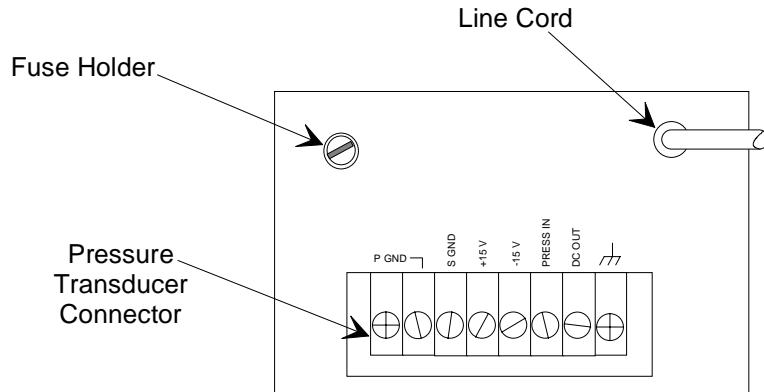

Figure 4: Rear Panel Controls
8. Use an external meter to measure the DC output voltage for this channel. Reference the meter to S Gnd on the input connector. Refer to Figure 4, page 28. This voltage should track the input voltage of step 7 to within  $\pm 0.2$  Volts. If it does not, the problem lies in the channel amplifier and zero circuit. If the voltage does track but the digital meter does not agree, either the meter or the overrange comparator is defective. Return the unit to MKS for further troubleshooting.